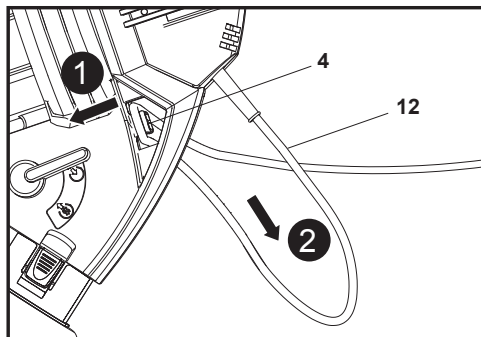

Fig. 6
1. Double the power cord (12) back, about 60 cm from the power guard and lead the loop on the cord retainer (4). Pull it over the cord retainer (4) and gently tug on the power cord (12) to ensure that it is firmly secured (Fig. 6, steps 1, 2).